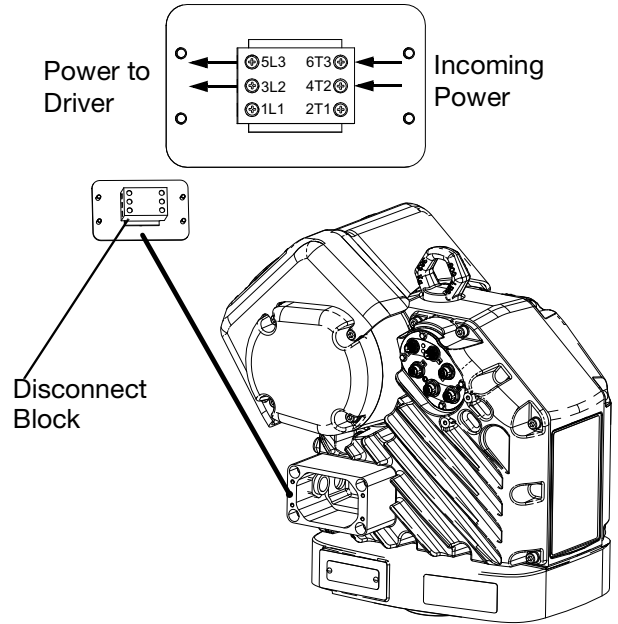

FIG. 5: Terminal Connections
NOTE: Inside the junction box, power wires to the driver are connected to terminals 3L2 and 5L3 on the disconnect block. Refer to **FIG. 5** for the terminal locations.
4. Refer to **FIG. 5** and connect the wires from the power cord into terminals 4T2 and 6T3. Each wire can be connected to either terminal.